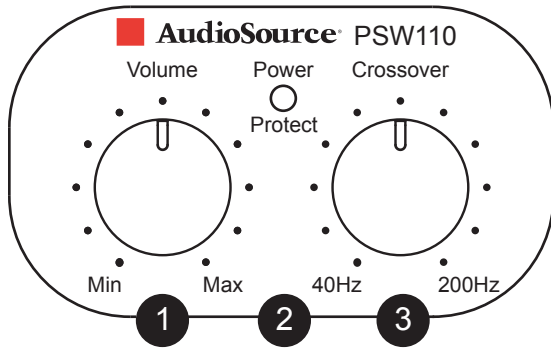

Figure 1. Front Panel
**FRONT PANEL CONTROLS** (Figure 1)